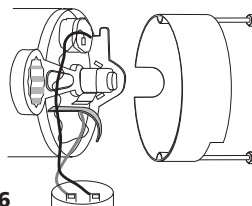

Figure 26
2. If impeller must be replaced, loosen two machine screws and remove motor canopy (See Figure 26).
⚠ WARNING Capacitor voltage may be hazardous. To discharge capacitor, hold insulated-handle screwdriver BY THE HANDLE and short capacitor terminals together (See Figure 26). Do not touch metal screwdriver blade or capacitor terminals. If in doubt, consult a qualified electrician.